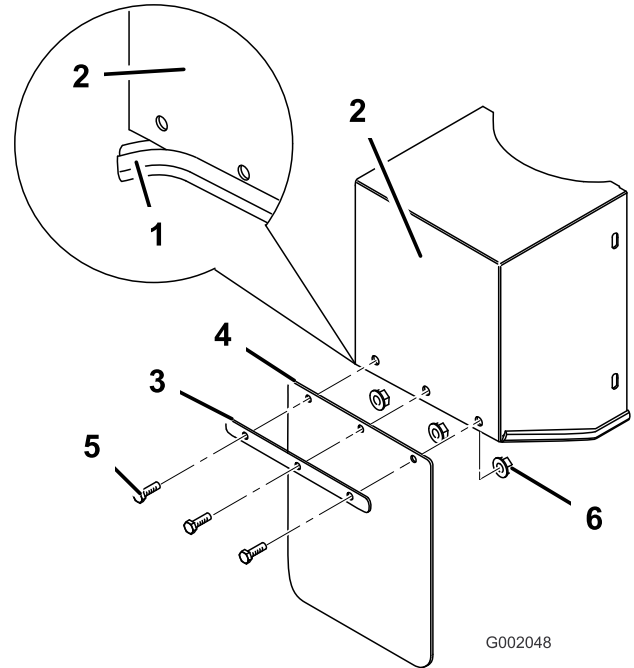

Figure 10
- Remove the rubber striping on the back side of the tank cover (Figure 10).
inch) and three locknuts (5/16 inch) as shown in Figure 10.